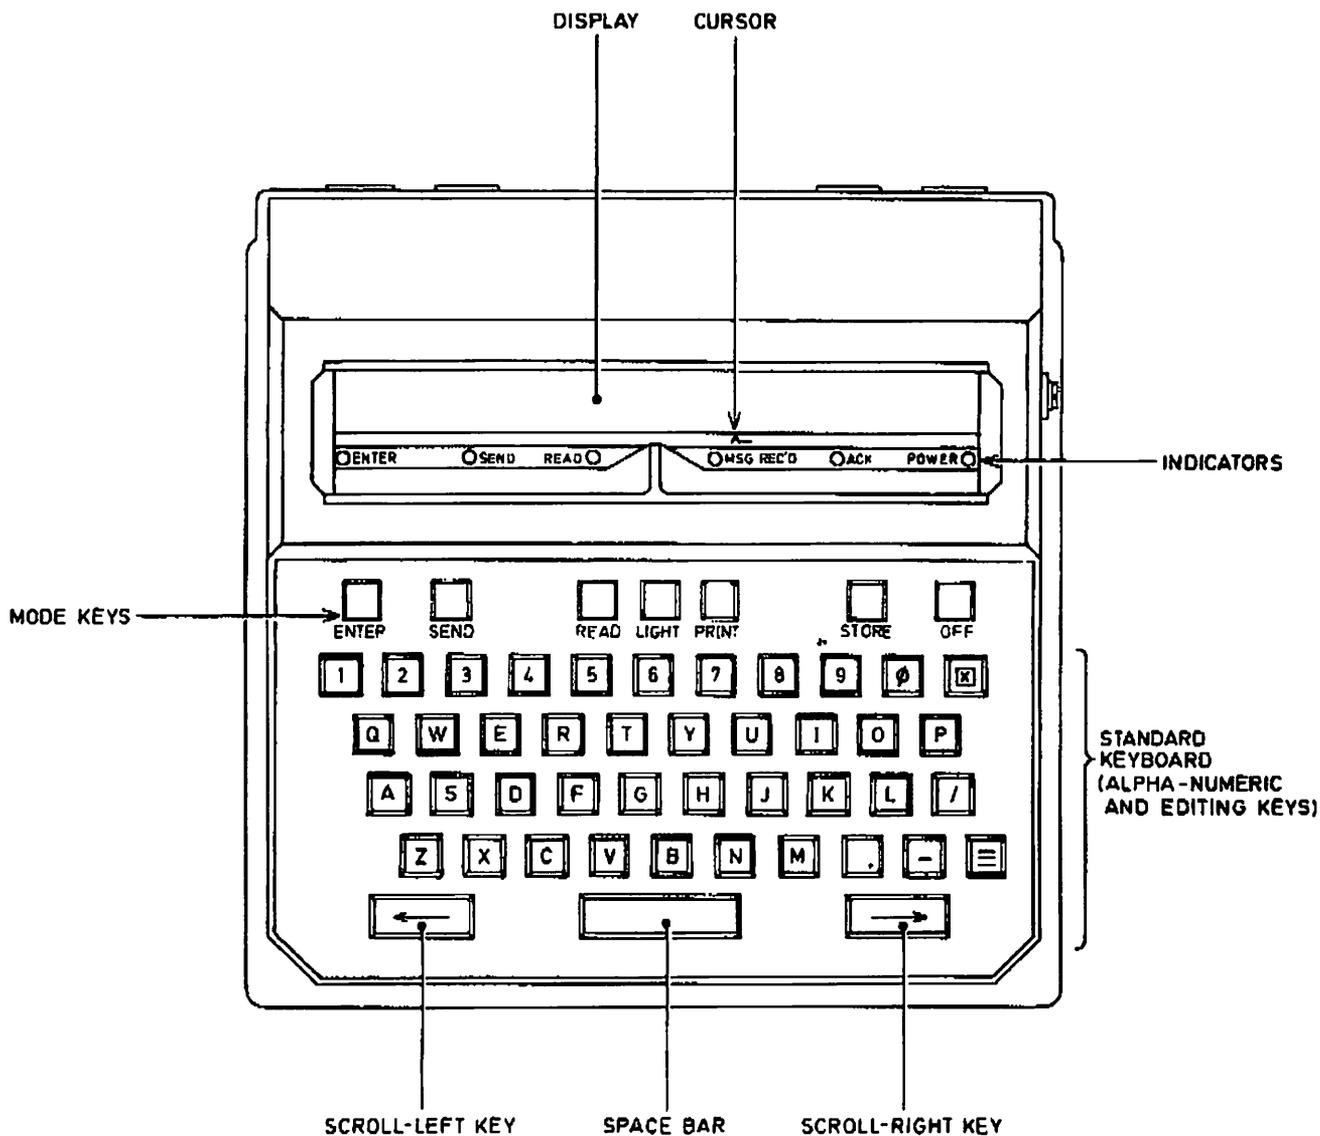

Fig. 4.1.1
4. The unit has a 32-character liquid crystal display: see Fig. 4.1.1. As the operator presses the keyboard character-keys one at a time, each appears in turn just to the left of the cursor. With each character-entry, the characters already displayed move one space to the left. Twenty characters (or spaces) can be displayed to the left of the cursor: they are always the last twenty characters entered (other than when characters are also displayed to the right of the cursor - see next paragraph).